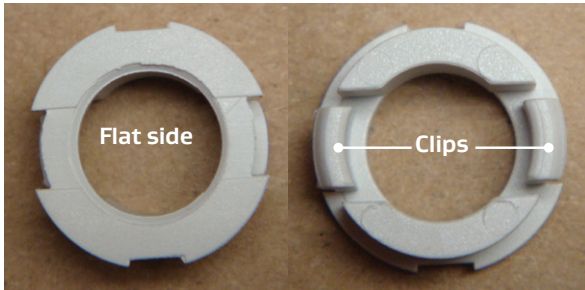

Figure 7: Retention cap
1. Slide the retention cap onto the cable with the flat edge facing the cable and both clips facing the end of the cable (Figures 7 and 8).